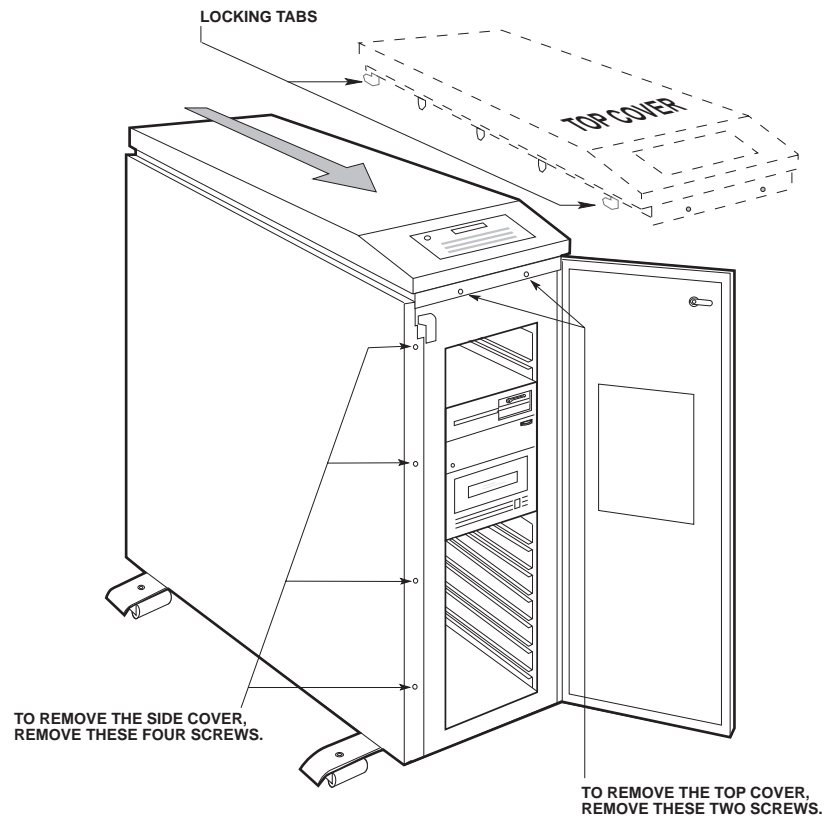

Figure 3: AM-990 Chassis Removal
3. Use the palm of your hand to firmly strike the rear corners of the top cover to slide it forward, in order to release the locking tabs that hold it in place. Refer to Figure 3.